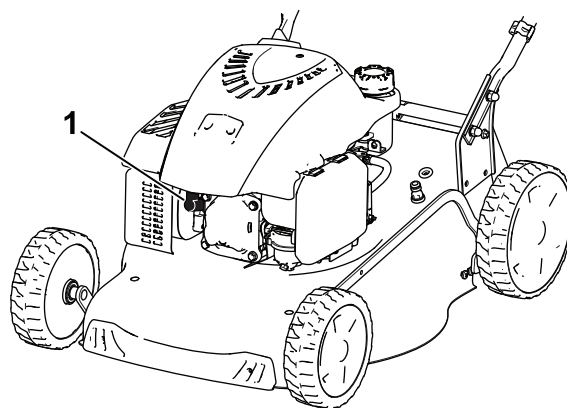

Figure 20
2. Disconnect the spark-plug wire from the spark plug (Figure 20).